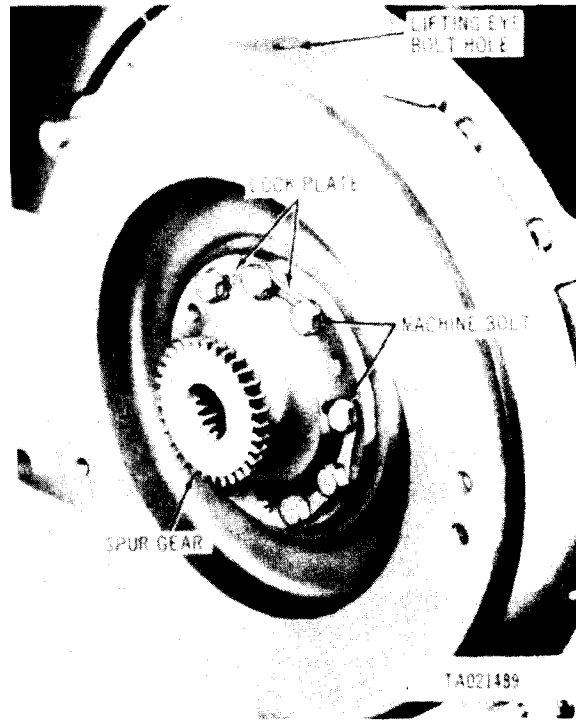

Figure 2-97. Removing transmission drive spur gear, model AVDS-1790-2C and AVDS-1790-2D engines.
(1) Turn flywheel using splined wrench, Part No. 10882747 (fig. 2-42) until lifting eye bolt hole (fig. 2-97) is located on top. Straighten tabs of lock plates and remove nine bolts and three lock plates attaching transmission drive spur gear and flywheel to crankshaft. Discard lock plates.
(2) Install three of the nine bolts (fig. 2-97) into puller screw holes and remove transmission drive spur gear from crankshaft dowel pins by alternately tightening the three bolts.
(6) Secure transmission drive spur gear and flywheel to crankshaft with three new lockplates (fig. 2-97) and nine bolts and torque tighten to 1000 pound-inches. Secure nine bolts by bending tabs of lockplates.